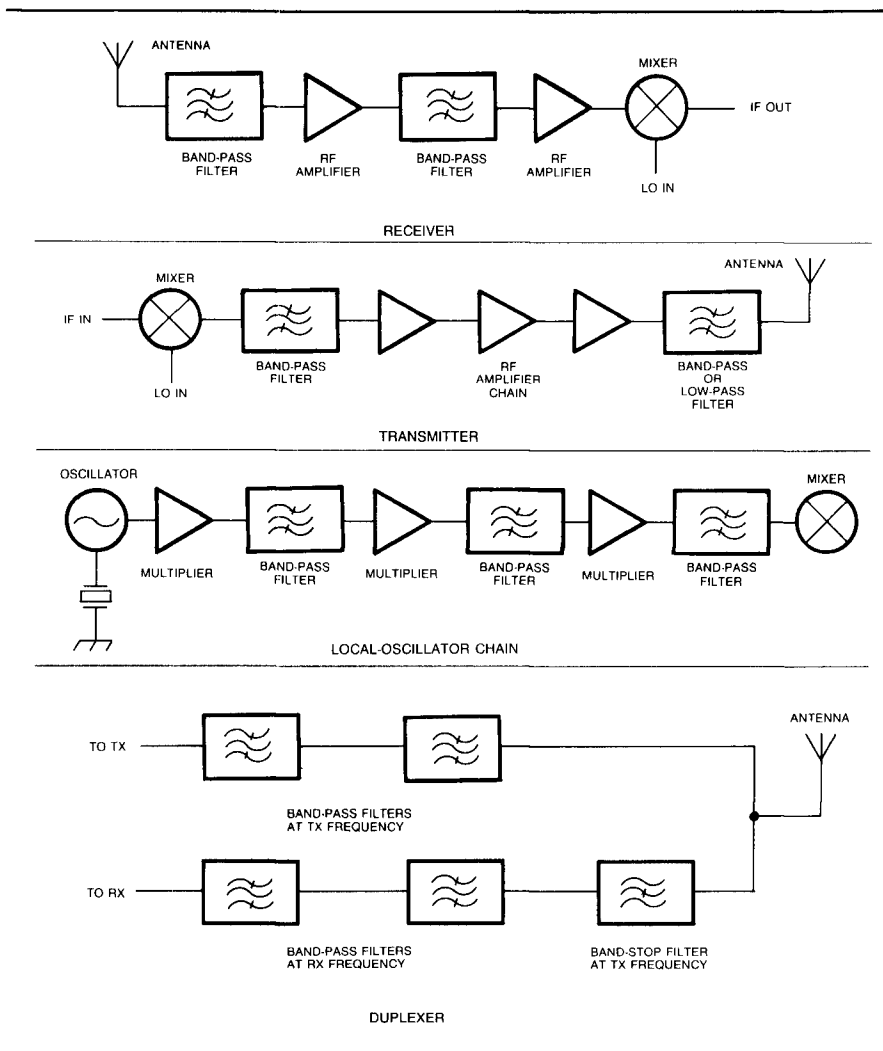

Fig 3—Common filter uses in VHF and UHF equipment. See text.
from local oscillator (LO) chains, to amplifier stages in receivers and transmitters, to antenna lines. See Fig 3. Although the basic purpose is the same—to suppress unwanted signals—